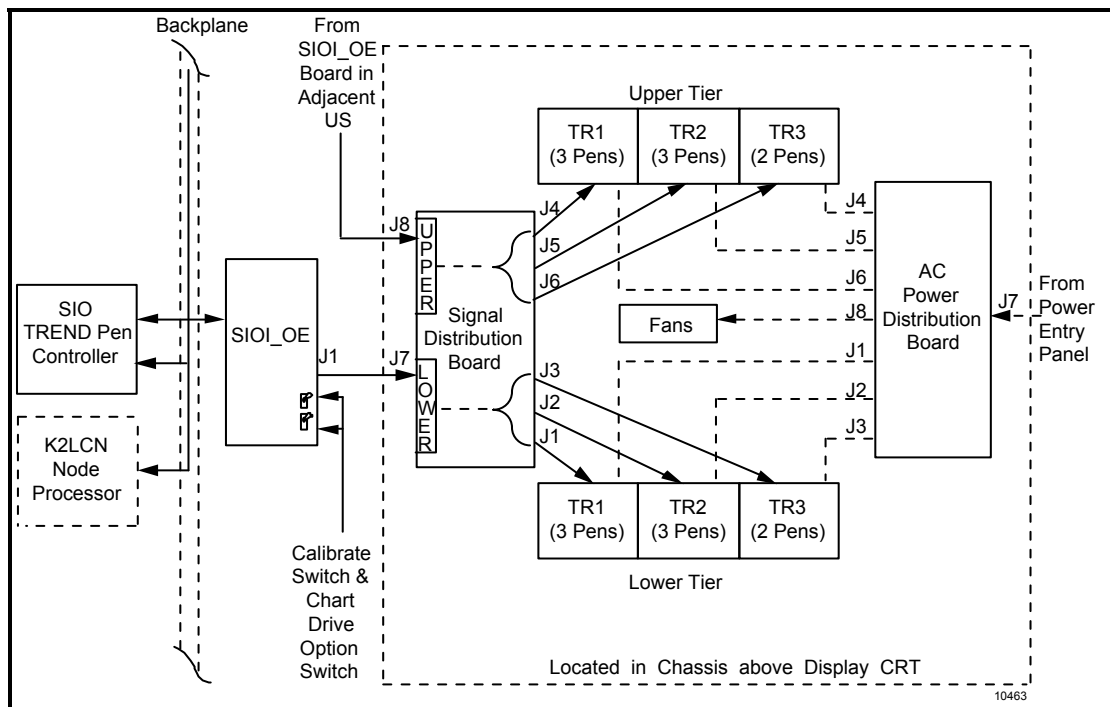

Figure 21-3 — Trend Pen Recorder Cabling
- Examine the cables and refer to the cabling diagram in Figure 21-3.